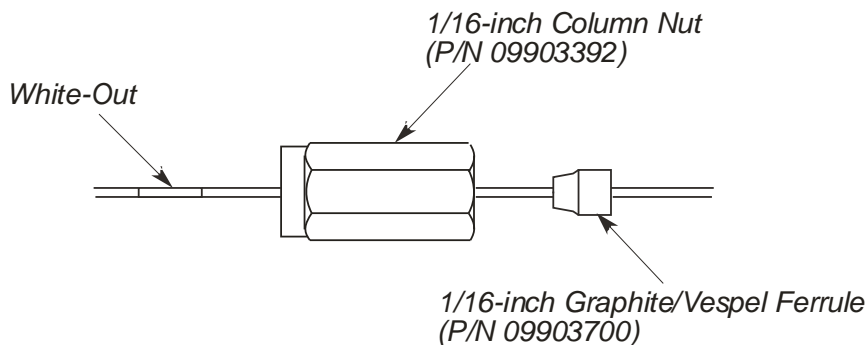

Figure 26. Narrow-bore capillary column, nut, and ferrule on the injector end of a column.
4. Using typewriter "white-out" or a felt-tipped pen, make a mark on the column just beyond the back edge of the column nut (see Figure 26).